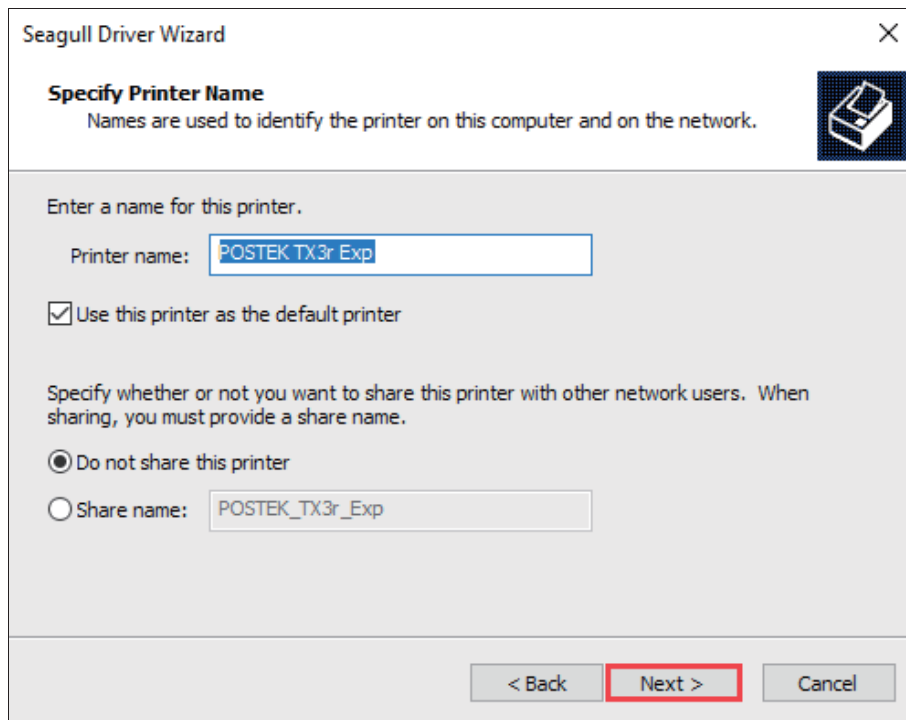

Figure 2-42 Specify Printer Name
10. On the “Specify Printer Name” screen, enter a name for the printer, as shown in Figure 2-42. Click “Next” to complete the driver installation.